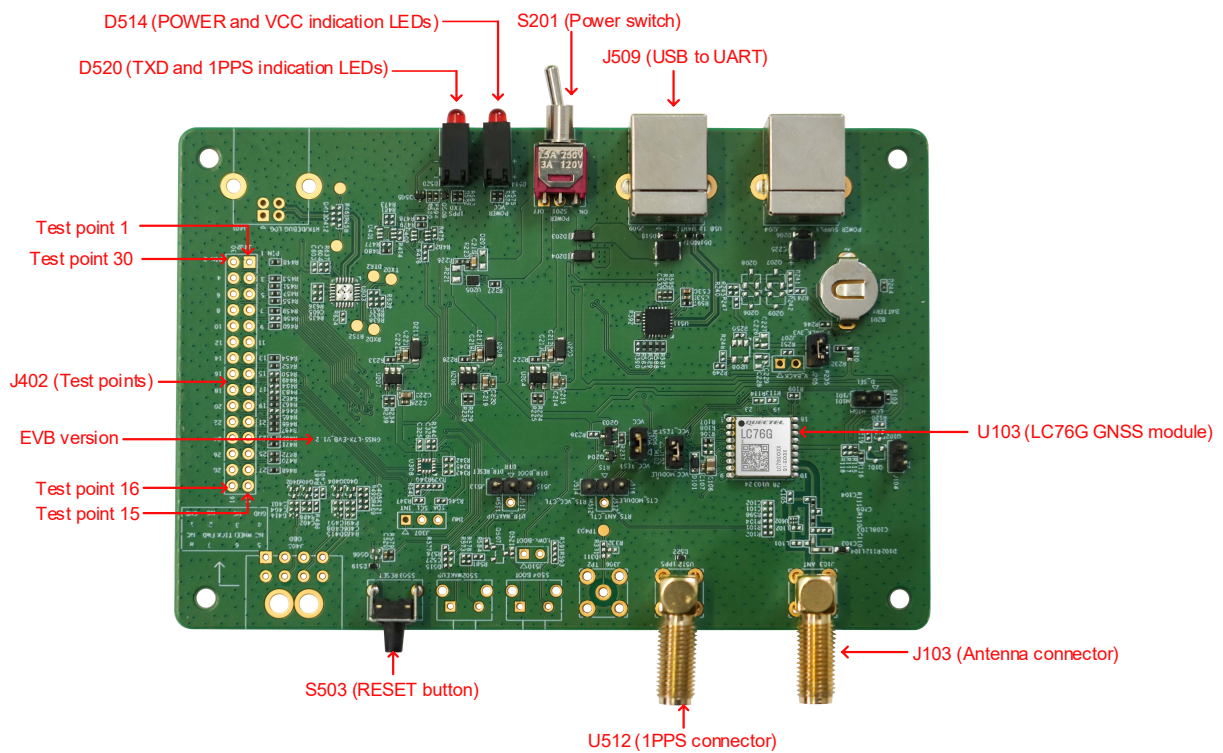

Figure 3: EVB Top View
1. Test points of J402 are arranged clockwise, and their serial numbers are shown in Figure 3: EVB Top View.